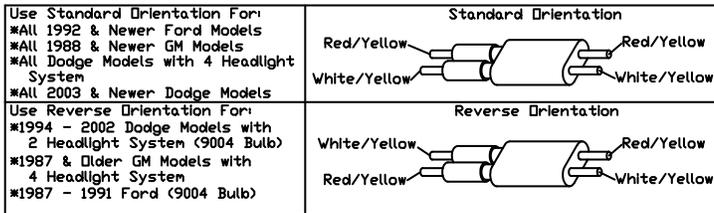

Figure 28. Vehicle Option Connector G10202
32. Locate vehicle option connector. Align the connector so that the arrow on the Vehicle Option Connector is positioned to match the vehicle it is installed on. This is illustrated in Figure 28.